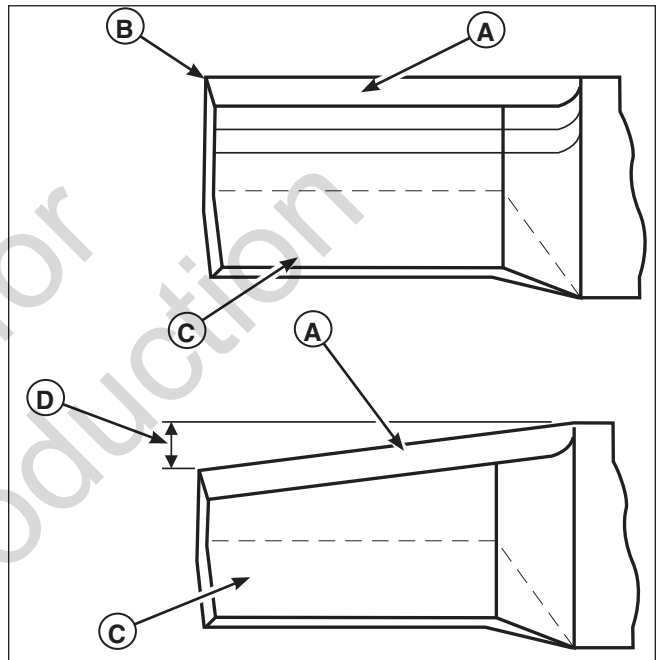

Figure 27. inspecting the Mower Blade Tips
2. Inspect the mower blade (Figures 27 & 28). **Discard the mower blade if it has any of the below conditions.**